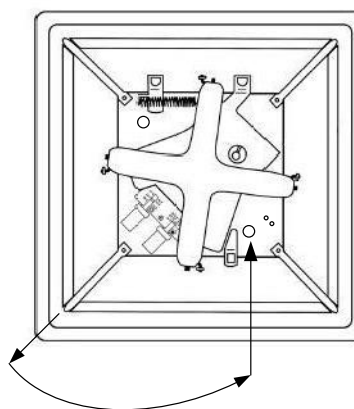

Fig. 1
2. Locate the hole in the diffusion plate counter clockwise from the thermostat/actuators (see Fig. 1).